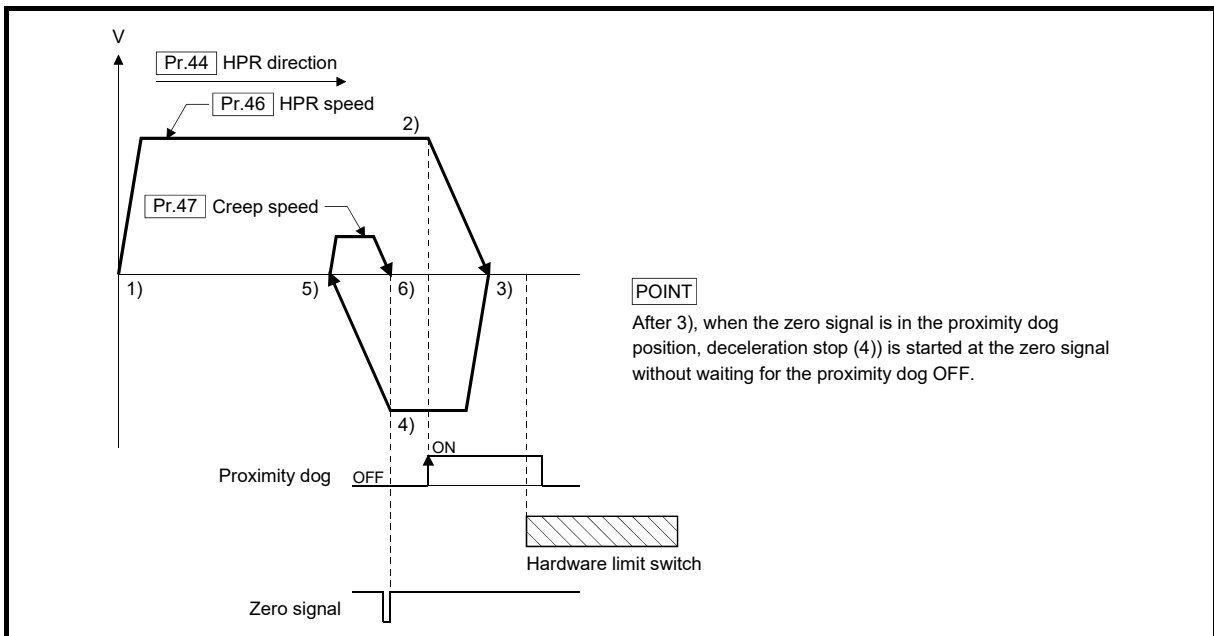

Fig. 8.10 Scale origin signal detection method machine HPR
- (7) Do not use the scale origin signal detection method HPR for the machine with the backlash.
- (8) When using the direct drive motor, make it passed the Z phase once before reaching 3) of Fig. 8.10.